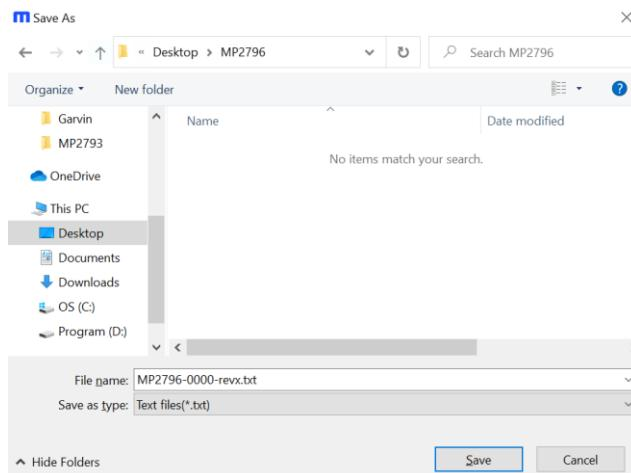

Figure 15: Save the Exported Configurations to Desired Location
6. Find a location for the exported file, rename the file if necessary, and click “Save.” The configurations are saved in a text file (see Figure 15).